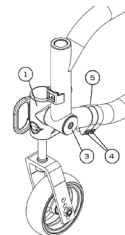

Fig. 31
- If the housing is not parallel to the set square, remove the screws (4) (Fig. 31) and loosen the pivot bolt (3) (Fig. 31).
- Rotate the caster housing to adjust the angle while sliding clamp (5) on the frame.
- Tighten screw (3). This will hold the caster housing position.